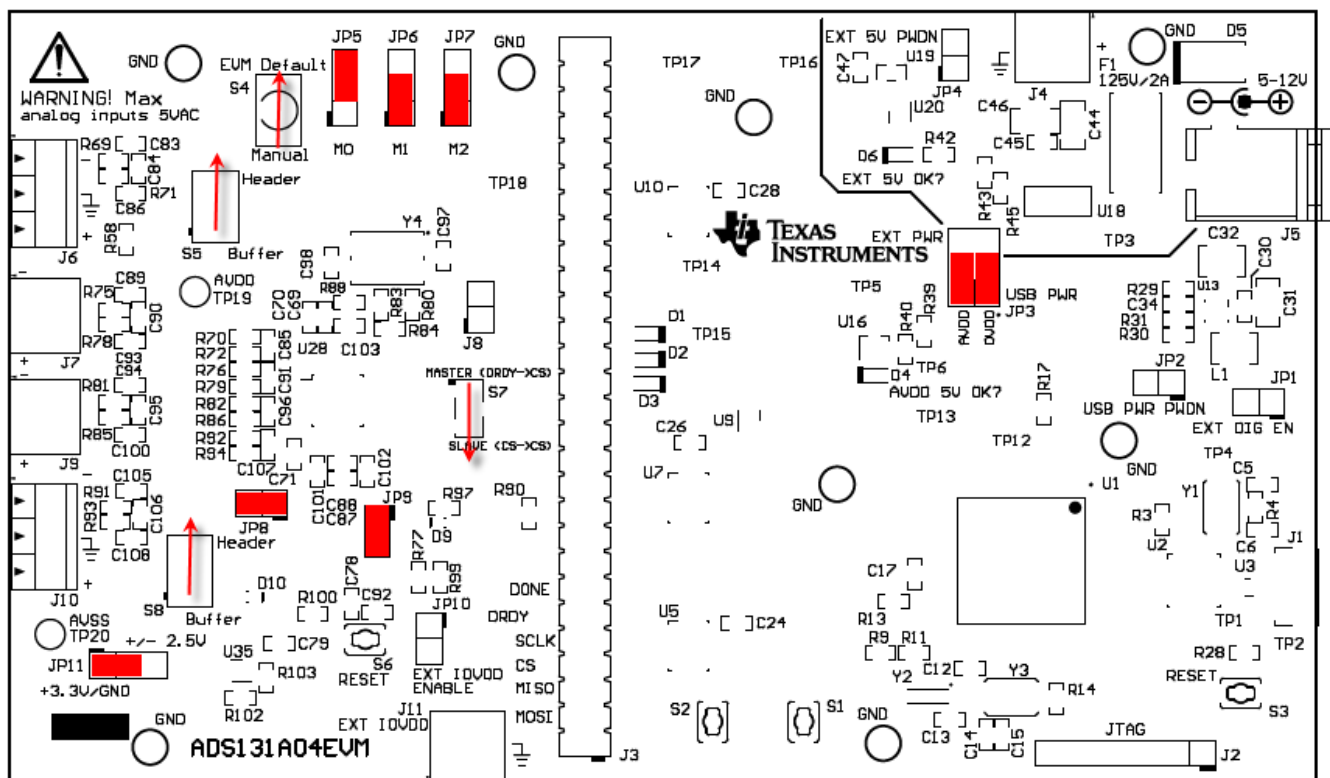

Figure 2. ADS131A04 Prototype EVM
The EVM should be configured with the settings listed in Table 2 and illustrated in Figure 2.
3. Ensure all jumpers and switches are configured in the default configuration per Table 2 and Figure 2.